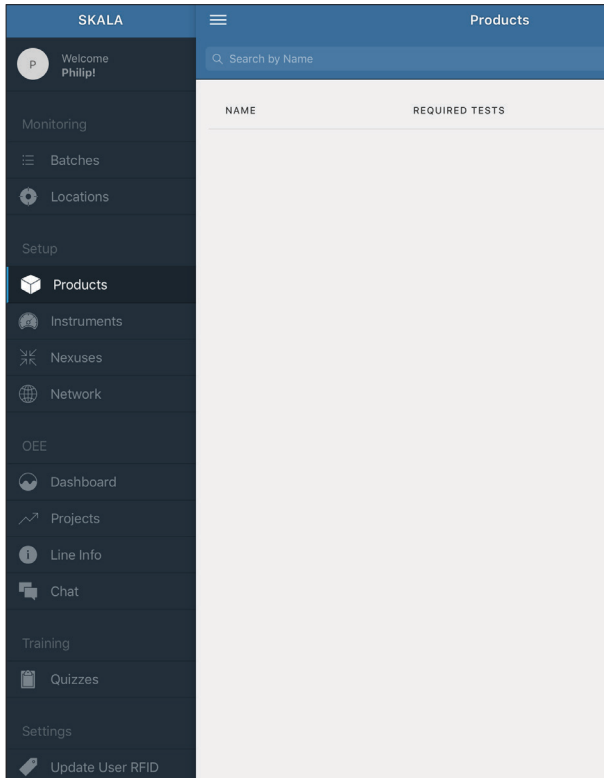

Figure 40 Products option in Main menu
3. Select Products from the main menu to open the Products window (Figure 40).
2. Select Products under Setup (Figure 40).